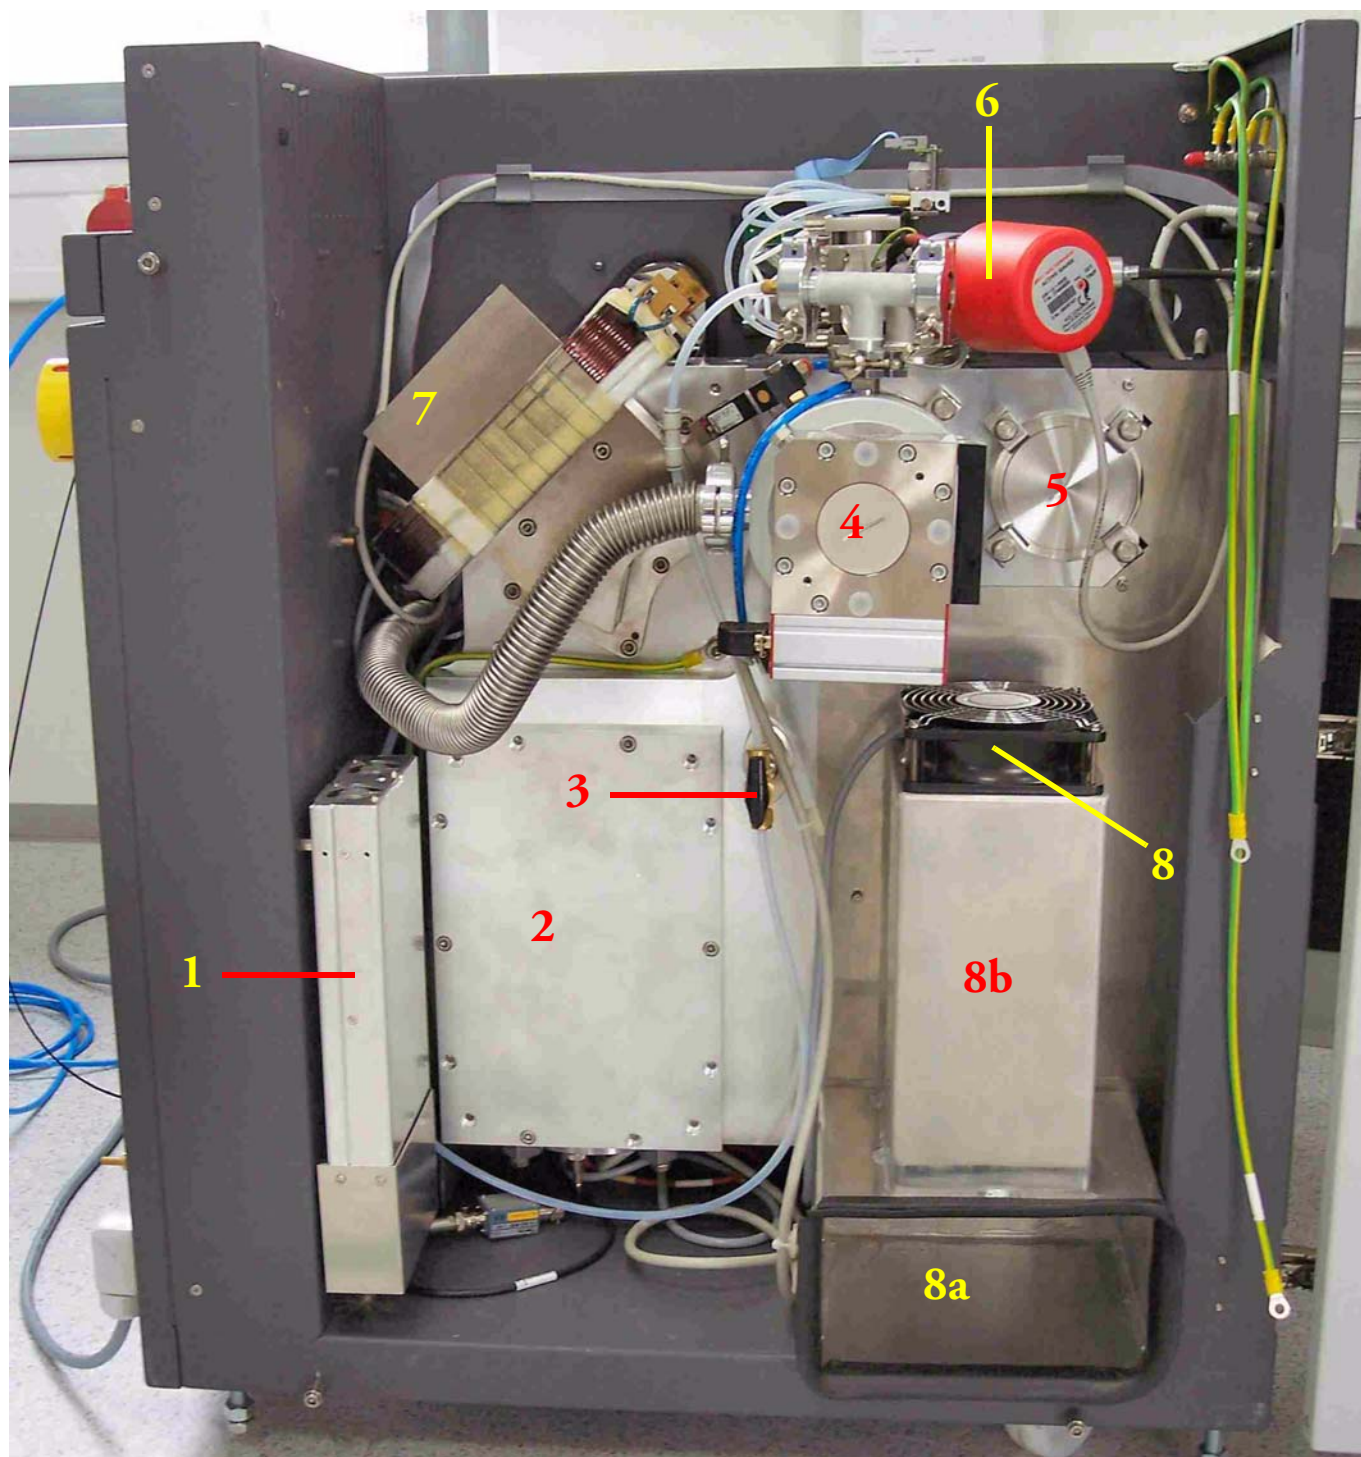

Figure 2-35. Left Side of IRMS
Table 2-19 summarizes the components shown in Figure 2-35.
* See Figure 2-35.
** Not present in Figure 2-35 (only flange is shown).
Behind the cover plate, **2** in Figure 2-35, the collector system is arranged. The collector system is described in detail at "Collector Systems" on page 5-6.
DELTA V Advantage is equipped with at least one turbo pump, the so-called **main pump**, **4** in Figure 2-35 and **1** in Figure 2-39. This TMH 262 manufactured by Pfeiffer is always required (“standard version”), usually sufficient and evacuates the entire analyzer system at a rate of 210 l/s. For maintaining it refer to “Turbo Pumps” on page 7-17.
A second analyzer turbo pump, **5** in Figure 2-35 and **2** in Figure 2-39, may be used as a supportive option for the main pump. This TMH 071 P manufactured by Pfeiffer evacuates the analyzer at a rate of 60 l/s. As it pumps the ion source area, the main pump must pump less gas and the analyzer vacuum is improved. Better abundance, peak shape and improved signal to background ratio at high ion source pressures are thereby obtained.
The Penning gauge (6 in Figure 2-35, Figure 2-41 and Figure 7-26) is an active inverted magnetron gauge combining head and gauge controller in a single compact unit. This high vacuum gauge operates as cold cathode ionization gauge, in which the pressure is measured indirectly as a function of the current which flows in a Townsend discharge maintained in the body tube.
The magnet, **7** in Figure 2-35, is part of the analyzer and will be described in “Electromagnet” on page 5-16. It is controlled by the magnet current regulator, Figure 2-55, which provides the energy necessary to generate the magnetic field.
A fan, **8** in Figure 2-35, cools both analyzer turbo pumps, that is main pump and differential pump. Air is sucked in via an “exhaust device” **8a** and led through a “chimney” **8b**.